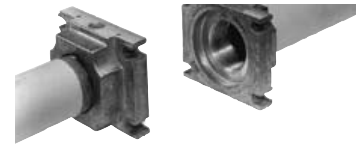

Fig. 7
1. Mount flange onto tube lines. Use appropriate sealing agent (see Fig. 7)